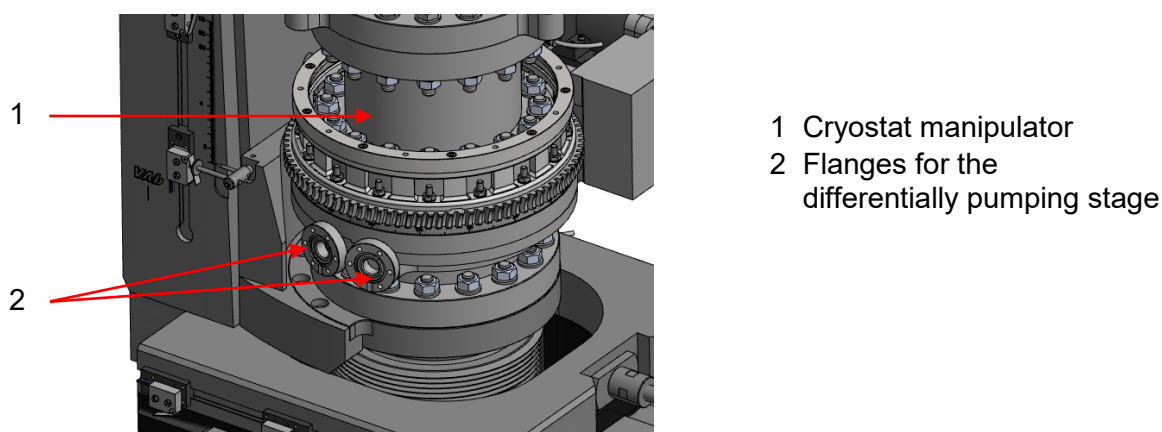

Figure 11: Differentially pumped rotary feedthrough at the cryostat manipulator
- E. Connect the scroll pump to the differentially pumping stages at the maintenance door (#3 in Figure 10) and the manipulator rotary feedthrough (#2 in Figure 11).